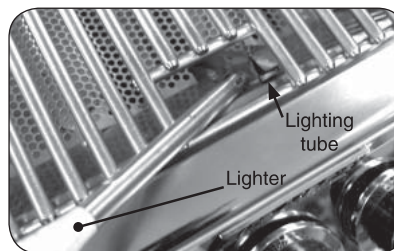

Fig. 17-2 - Manual lighting
**CAUTION:** Always wait five (5) minutes for gas to clear after any unsuccessful lighting attempt.
2. Insert either a burning long-barrel butane lighter or a burning long-stem match through the cooking grid opening to the top of the lighting tube. (Fig. 17-2). For backburners, hold the flame against the perforated material of the backburner.
4. If the burner does not light, **immediately depress the knob and turn the valve to OFF**. **WAIT FIVE (5) MINUTES** before repeating steps 2 through 4 of the MANUAL LIGHTING instructions.